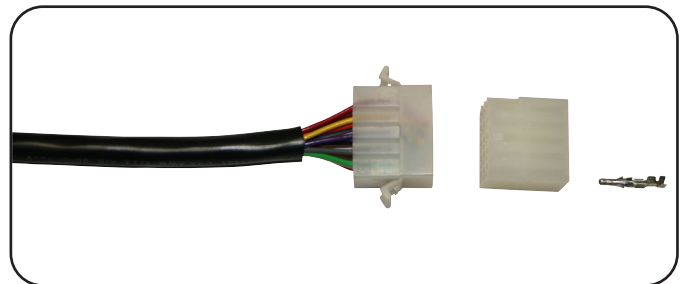

figure 5
4. Use molex connectors & fittings (provided) on selector switch. This will allow you to simply unplug the units from the wall if service is required. (Fig. 5)